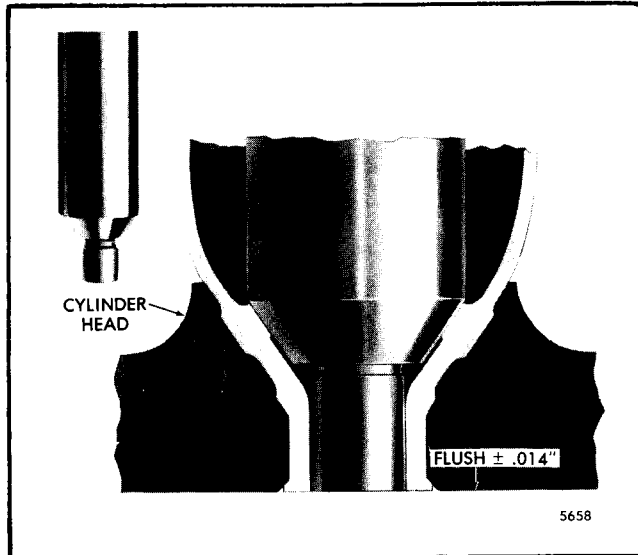

Fig. 7 - Measuring Relationship of Gage to Cylinder Head Fire Deck using Tool J 25521
Install gage J 25521 in the injector tube. Zero the sled gage dial indicator J 22273 to the fire deck. Gage J 25521 should be flush to $\pm .014$ " with the fire deck of the cylinder head (Fig. 7).
- d. Remove the chips from the injector tube and, using gage J 25521, continue the reaming operation until the shoulder of the spray tip is flush to $\pm .014$ " with the fire deck of the cylinder head as shown in Fig. 7. Then wash the interior of the injector tube with clean solvent and dry it with compressed air.